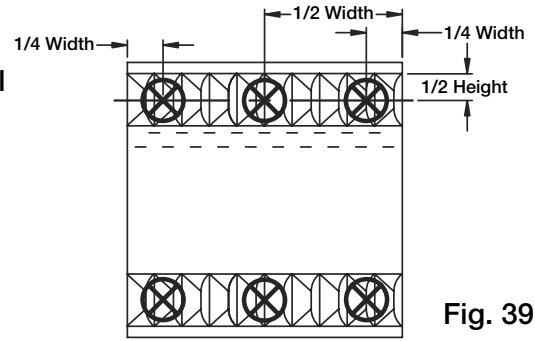

Fig. 39
- Measurement should be taken at six locations per filter. They must be over the inlet opening as shown in Fig. 39.